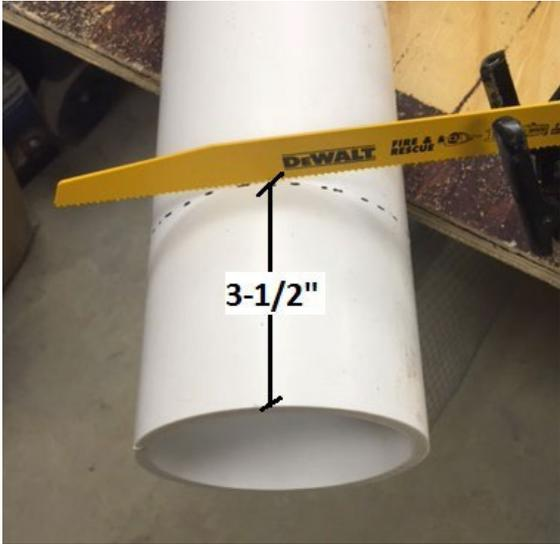

Figure 1-2
- 2. Cut the 4" diameter PVC pipe to 3 1/2" in length (Figure 1-2).